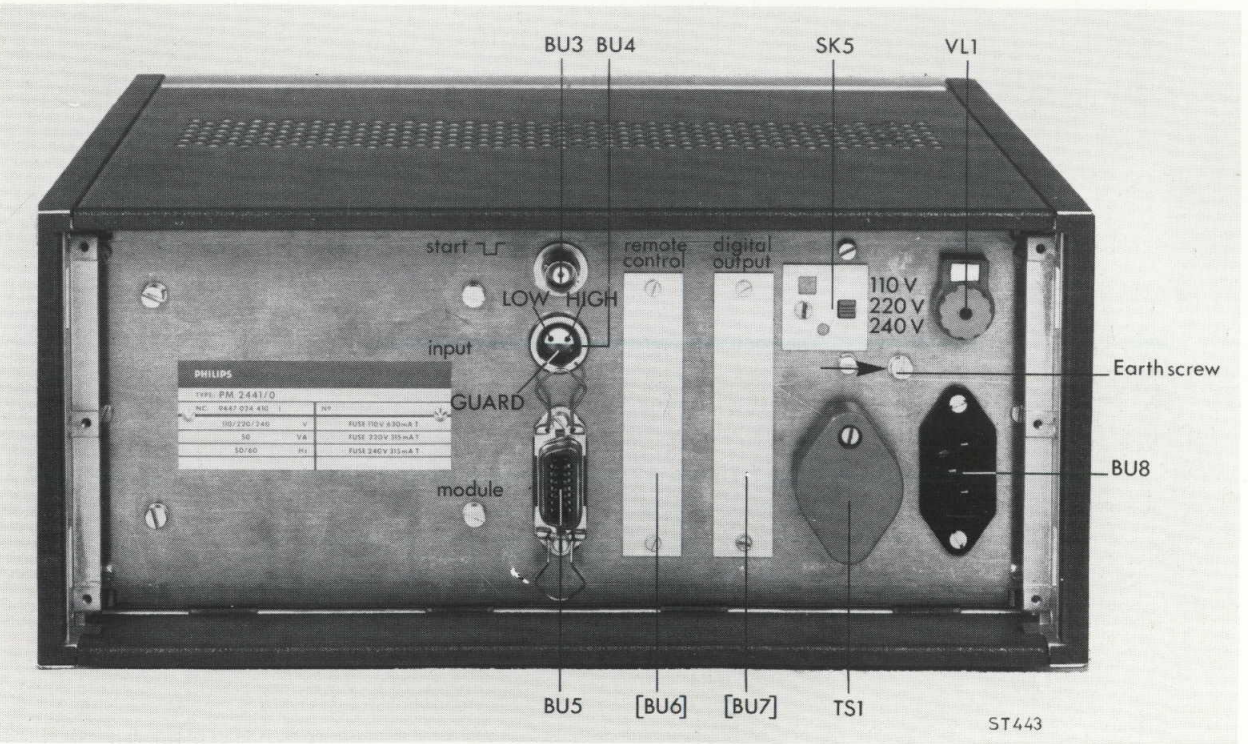

Fig. 15 Rear view
2. Via BNC connector BU3 (Fig. 15) by a negative-going pulse
- d. - PM 2441 is equipped with a MODULE-input BU5 (Fig. 15), which enables a.c. voltages or resistances to be measured via a converter connected to this input.